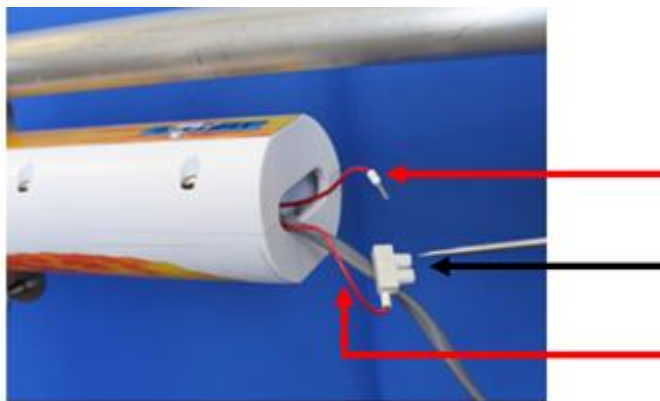

Figure 8: IRT Wiring and On/Off Switch
- Now the customer is ready to power on the IRT. First, identify the two wires protruding from the bottom of the unit (illustrated by the **red arrow** in figure 8) and the small white terminals connected to the end of one wire (illustrated by the **black arrow** in figure 8). This white connector will be the on and off switch, which is a housing where one red wire will be screwed into.